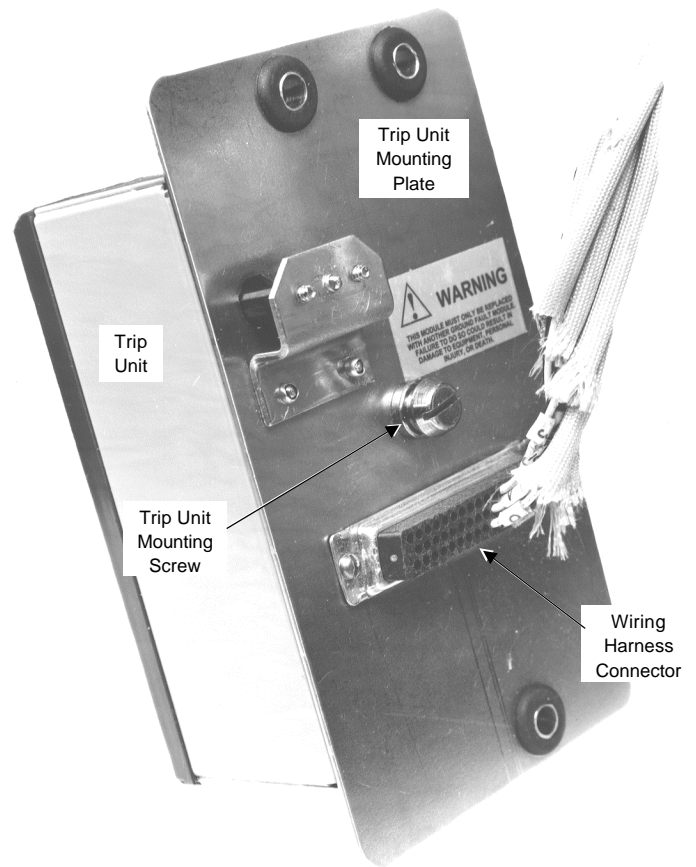

Figure 22. Attaching the trip unit to the mounting plate.
1. Remove the large screw from the rear of the trip unit. Place the trip unit in position on the mounting plate, with the 50-pin connector aligned with the opening in the plate. Secure with the large screw, as shown in Figure 22.
2. Insert the 50-pin female connector on the wiring harness into the trip unit connector through the rear of the mounting plate. Secure to the mounting plate with the two small screws provided, as shown in Figure 22.